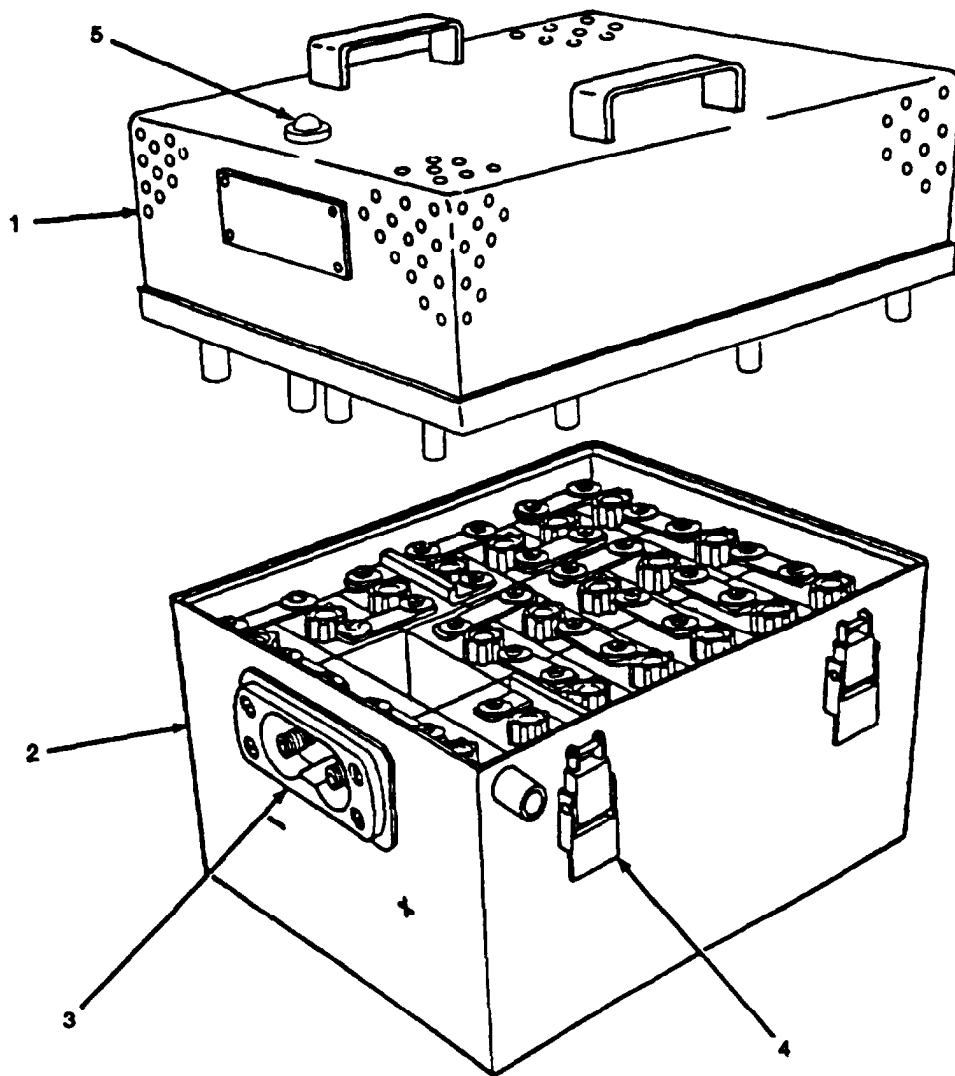

Figure 3-7. Discharging Battery Using Discharge Fixture (Typical).
a. Discharge Procedures for Batteries with Discharge Fixtures (fig. 3-7).
- (1) Refer to table 3-2 below for list of discharge fixtures.